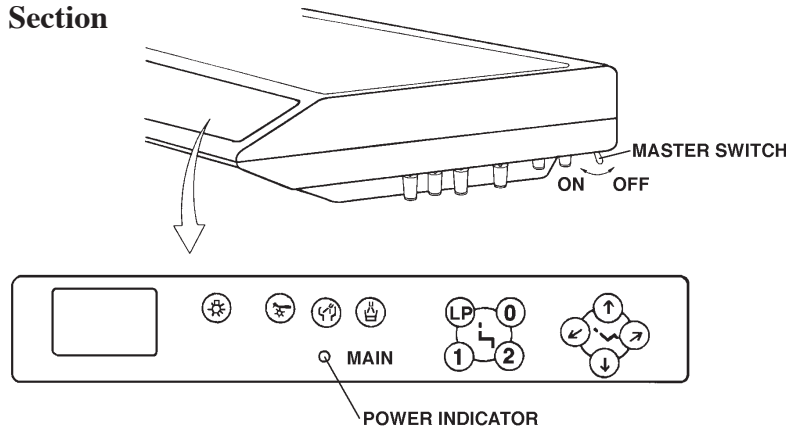

Fig.3-1 Master Switch and Power Indicator
(1) Master Switch (**Fig.3-1**)
(2) Power Indicator (**Fig.3-1**)